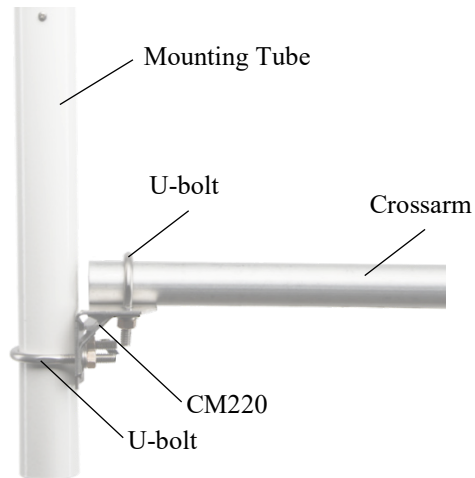

FIGURE 7-1. ClimaVUE50, MetSENS, or WindSonic Mounting Pipe Kit and crossarm
1. If using a crossarm, attach the mounting tube to the crossarm by using the CM220 Right Angle Mounting Kit, then mount the crossarm to the tripod or tower (FIGURE 7-1).